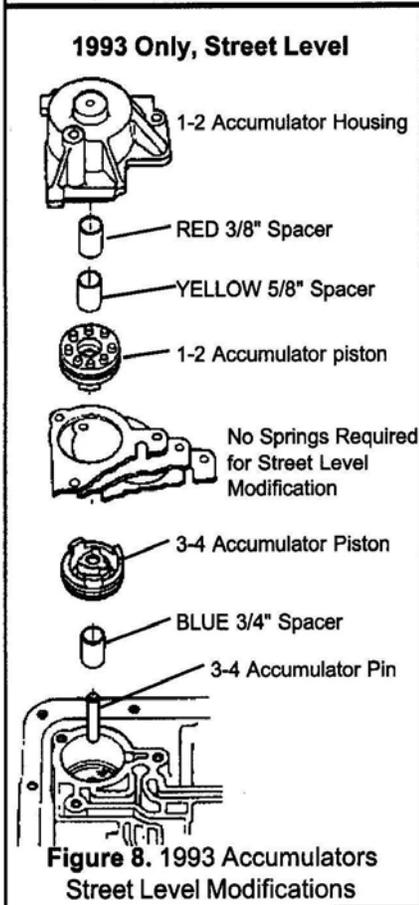

Figure 8. 1993 Accumulators Street Level Modifications
STEP 13. Street Level Only; (See Figures 8 or 10) Place the 3-4 Accumulator Pin in the case. Over the pin place the spacer and 3-4 Accumulator Piston, using petroleum jelly to hold them in place. Remove the spring and piston from the 1-2 Accumulator Housing. Install both spacers over the pin, then the piston (**notice orientation**). No 1-2 or 3-4 accumulator springs are used for Street level shift performance.